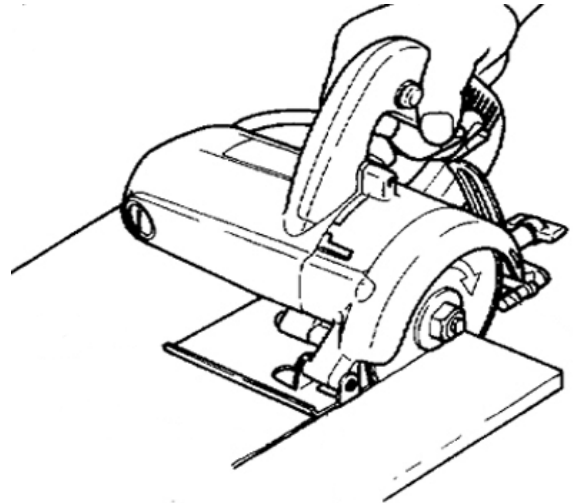

Figure 4
2. Set front end of the Base Plate (47) down against the tile surface without the blade touching the saw.
3. Press the Power Switch (4) to turn on Tile Saw.
5. Slowly slide Tile Saw forward, beginning to cut. See Figure 4, below.